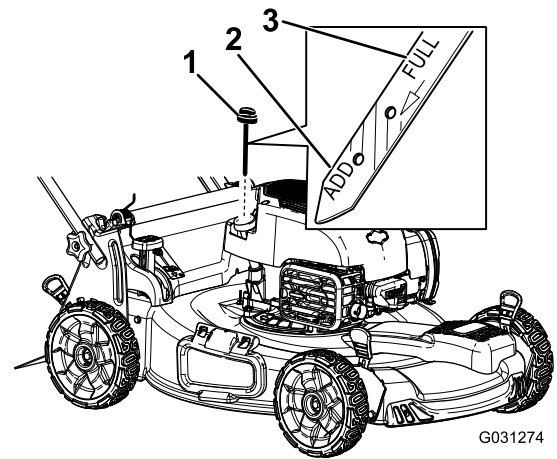

Figure 23
4. Remove the dipstick (Figure 23).
6. **Slowly** pour oil into the oil-fill tube until the oil level reaches the **Full** line on the dipstick (Figure 23). **Do not overfill.**